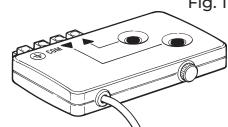

Fig. 1
- **Tutte le operazioni di programmazione e regolazione devono essere effettuate con il programmatore TTU** (fig. 1).
All the programming and adjustment operations must be carried out with the Nice TTU programmer (fig. 1). Alternatively you can also use a two-button push button panel, as long as this allows you to press the two buttons at the same time and allows the buttons to return to their previous position, when they are released.